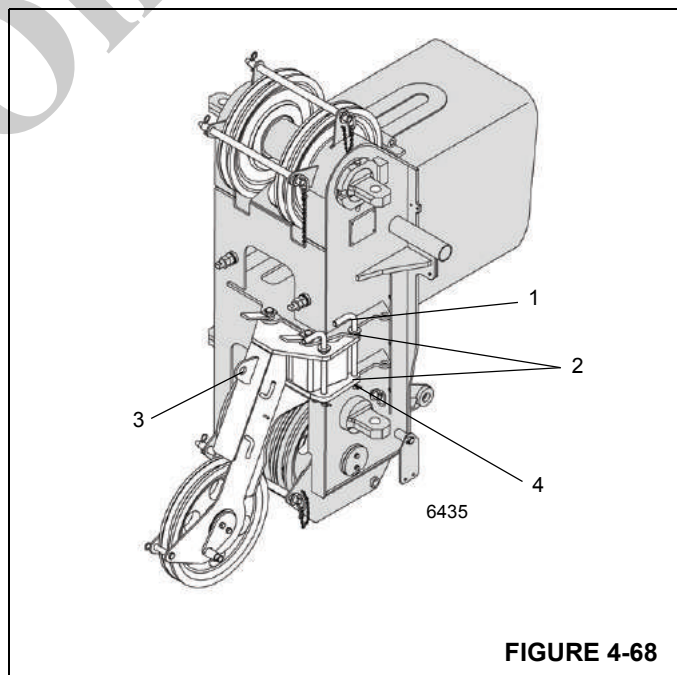

FIGURE 4-68
1. Loosen the retaining pin (4) and remove the pins (1) from the bearing point (2) (Figure 4-68).